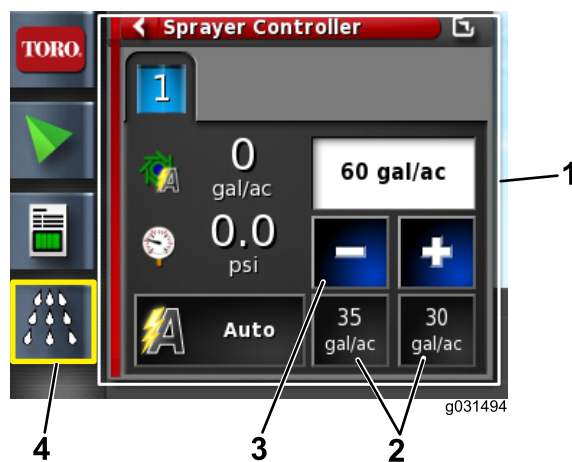

Figure 129
4. If the rate is not correct, change the rate by pressing the preset rate icons, press the decrease and increase icons to incrementally change the rate, or select the current rate field and enter the application rate with the on-screen keypad (Figure 129 and Figure 130).